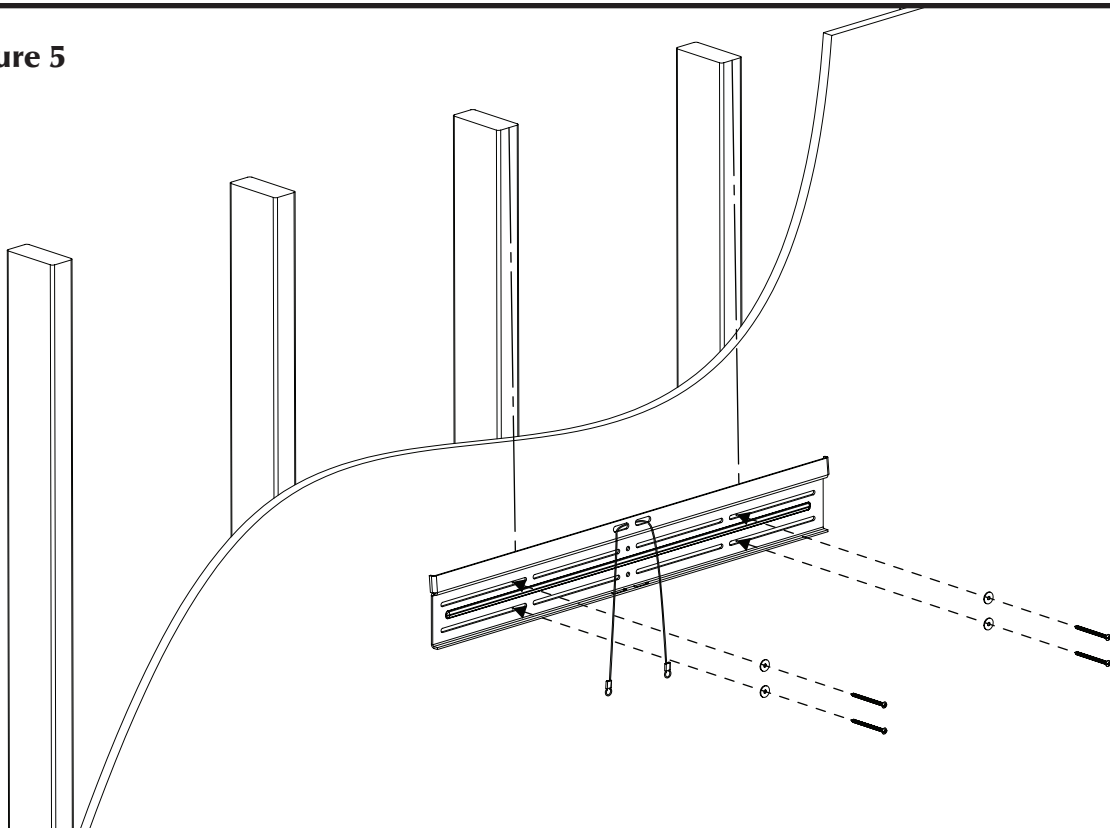

Figure 6
- 15 As shown in figure 6, hang the speaker on the wall bracket, centered in it's desired location.